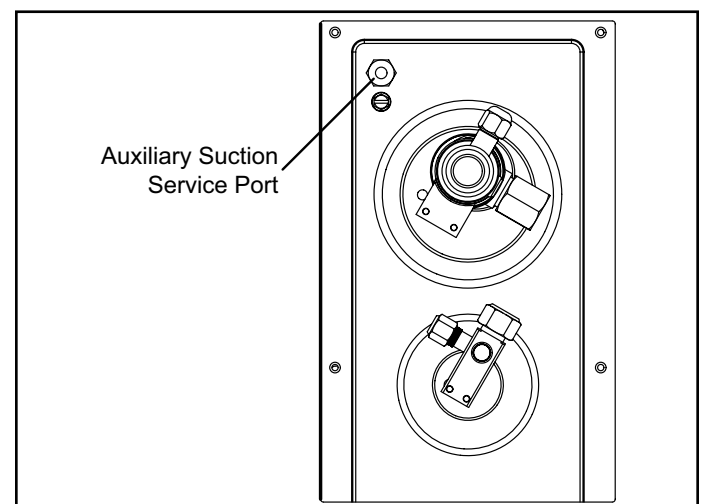

Figure 7. Auxiliary Suction Service Port Location
- **For systems below 60°F** – charge in heating mode using the subcooling method and table provided on the unit access panel. Attach low pressure gauge hose to auxiliary service port (Figure 7) to access suction side in heating mode.